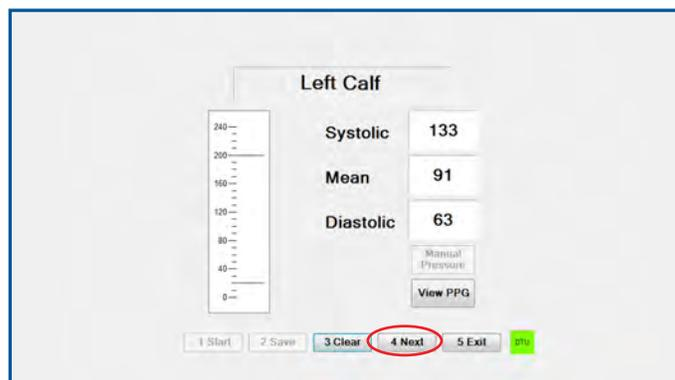

FIGURE 1.23 - Left Calf - “Next” Button
27. Pressures will populate on the Left Calf pressure screen. Click “Save” and “Next” to continue to the next Segmental Pressures testing location (Figure 1.23).